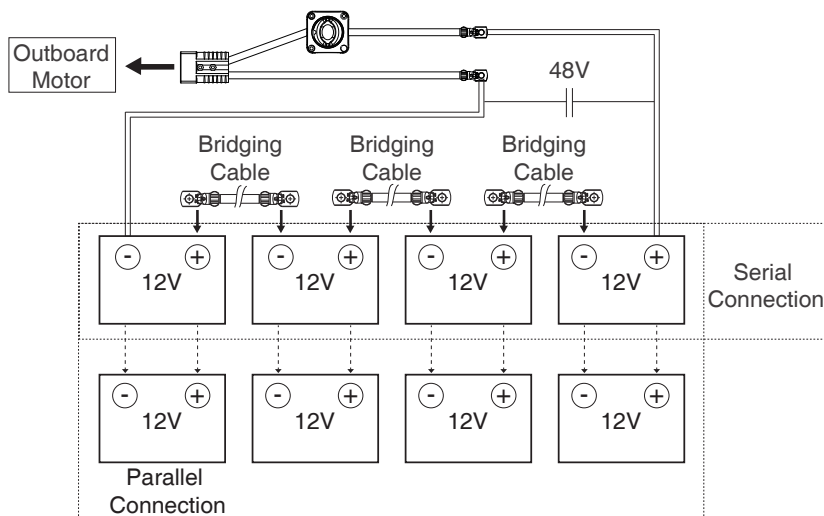

Figure 4-3
When connecting four 12V batteries in series to make a 48V battery set to supply power for NAVY 6.0, use bridging cables to connect batteries in series (Figure 4-3). Make sure to connect the main switch cable to battery positive terminal and the other cable to battery negative terminal.
- ⚠️ Never reverse the polarity. Please pay more attention when connecting batteries in series and/or in parallel configuration. Always double check by referring to Figure 4-3.